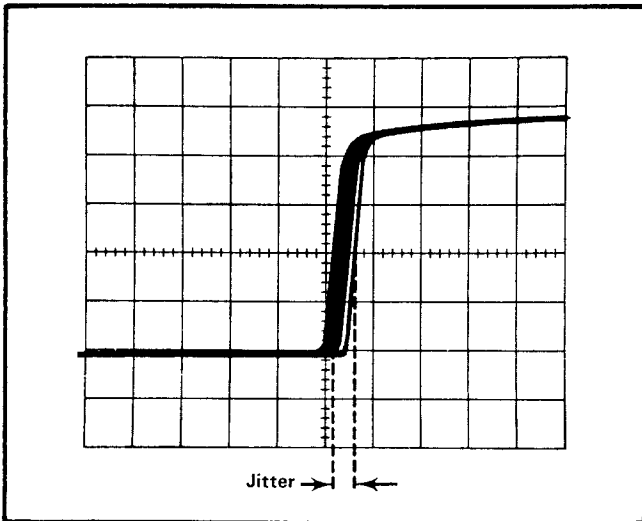

Fig. 2-26. Measuring pulse jitter.
**Example.** Assume that the horizontal movement is 0.5 division (see Fig. 2-26), and the B TIME/DIV switch setting is 0.5  $\mu$ s.